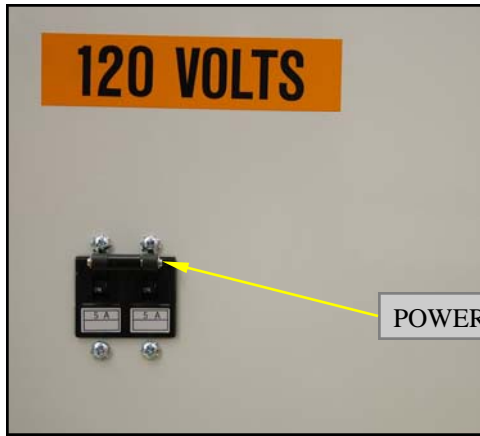

Figure 13
- A. Power the Q2K Plus (power switch up) (Figure 13) The infeed section will raise. If the infeed belt section does not raise, return to Step 10 and complete diagnostics.
- H. Turn the Q2K Plus “on” (Switch up) (Figure 13)